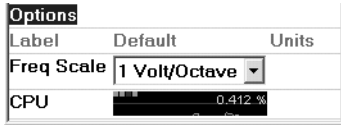

Figure 1.14
- ❖ The Properties window shows the number of active clones for each module. Figure 1.14 shows the bottom of an SV Filter's Properties window. The green dots at the CPU graph's top left signal the specified clone is active. In figure 1.14's scenario, max polyphony is four voices, with three currently active.